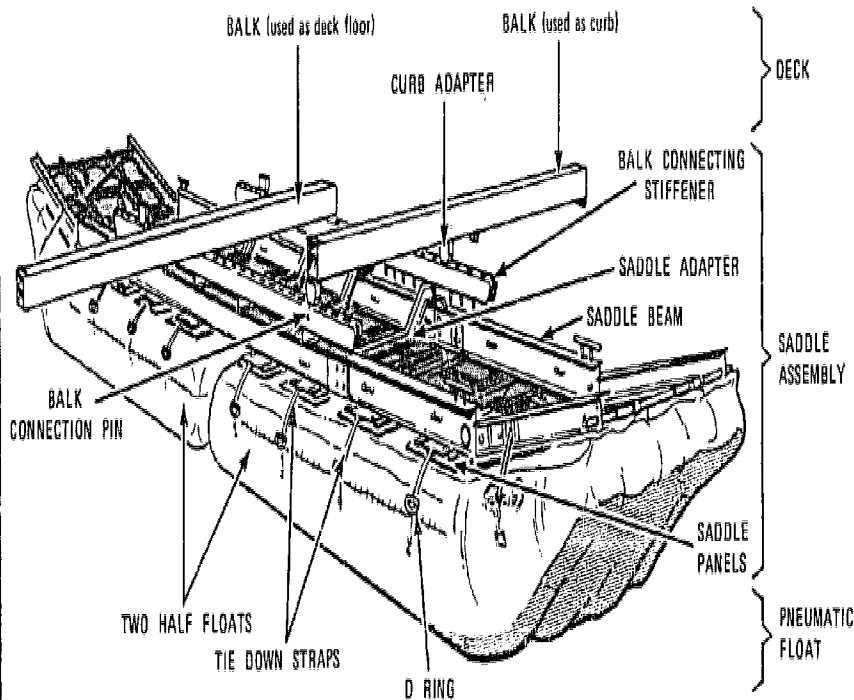

Figure 6-1. Main parts of M4T6 floating bridge:
b. *Description.* The M4T6 floating bridge is made up of three main parts: (1) the deck, (2) the saddle assembly, which joins the deck to the float, and (3) the pneumatic floats which support the bridge in the water (see Fig. 6-1).
(1) The bridge is put together by first joining two half floats to make the longer float shown in Figure 6-1.
(2) Next the four parts of the saddle assembly are put together on the float: